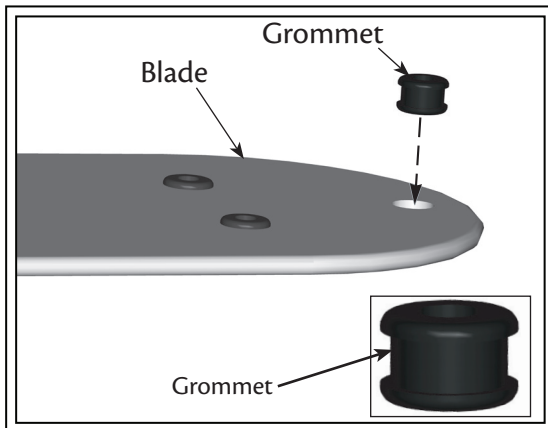

Fig. 13
1. Insert blade grommets, found in the ■ hardware bag, by hand into the holes on the blades (see Fig. 13).